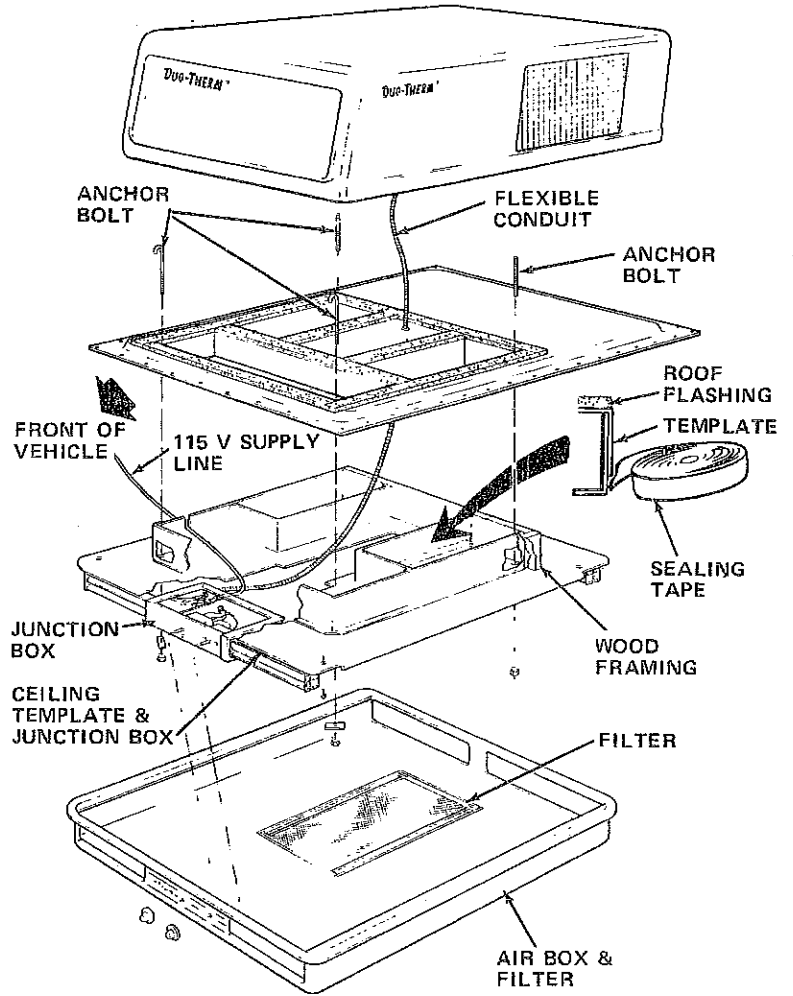

FIGURE 6
5. Set air conditioner on flashing, being careful not to damage the foam tape sealer. Guide the conduit through the small hole in center of flashing, see Figure 6.
After ceiling template is installed, tape the joints in the return air and discharge air ducts as shown in Figure 6.